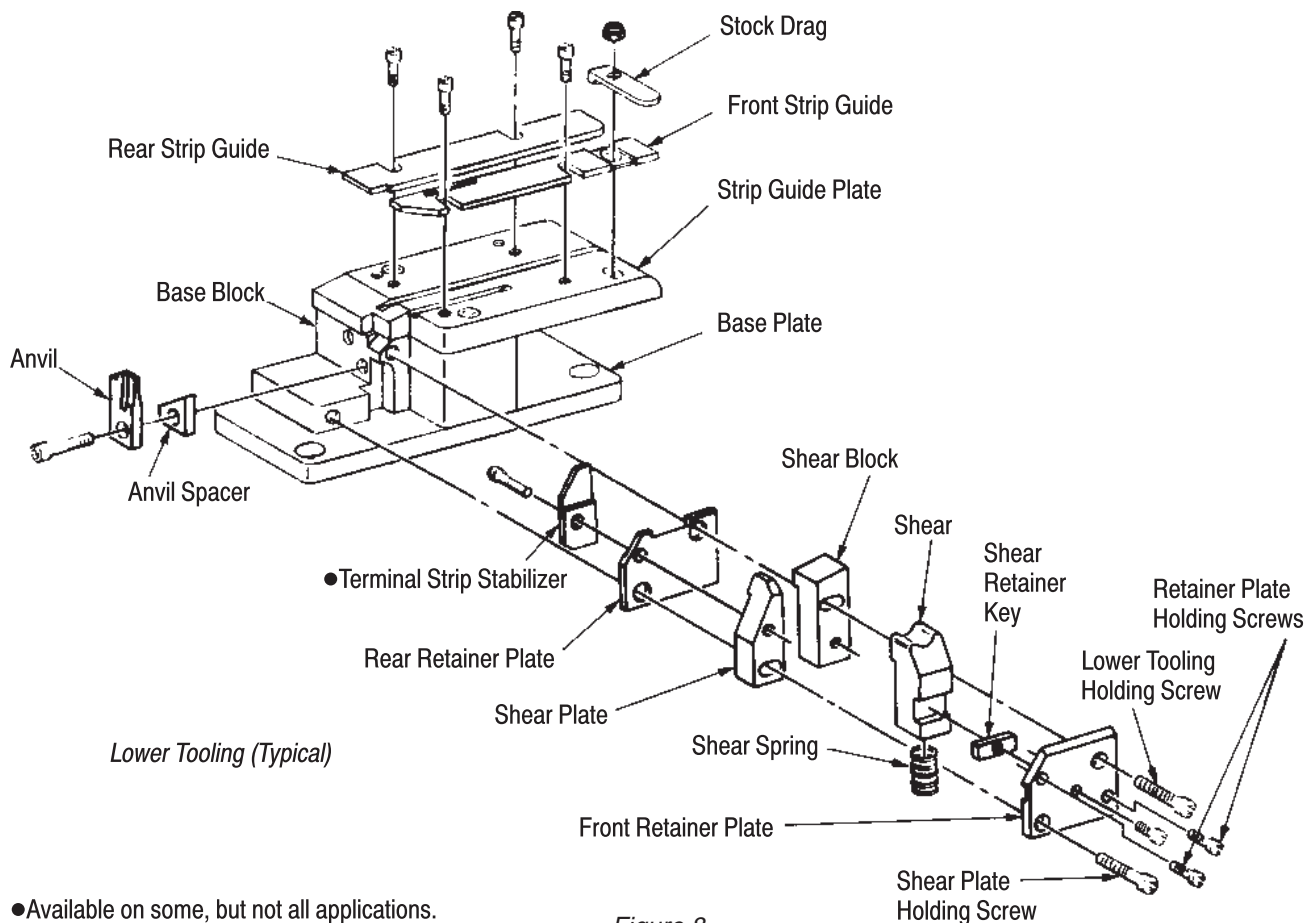

Figure 8
1. Remove the terminal strip stabilizer, if present, and its holding screw. See Figure 8.
1. Remove the lower tooling holding screw, and the shear plate holding screw. See Figure 8.
1. Remove the two front retainer plate holding screws. See Figure 8.